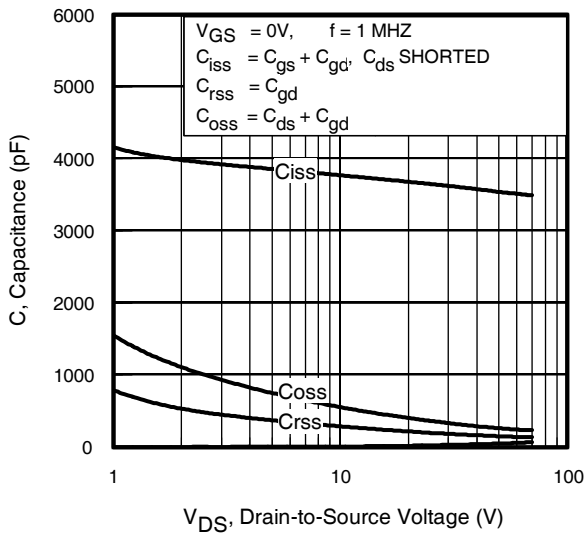

Fig 5. Typical Capacitance vs. Drain-to-Source Voltage
| C _{oss} eff. (TR) | Effective Output Capacitance (Time Related) | — | 380 | — | | V _{GS} = 0V, V _{DS} = 0V to 80V ⑤, See Fig. 5 |